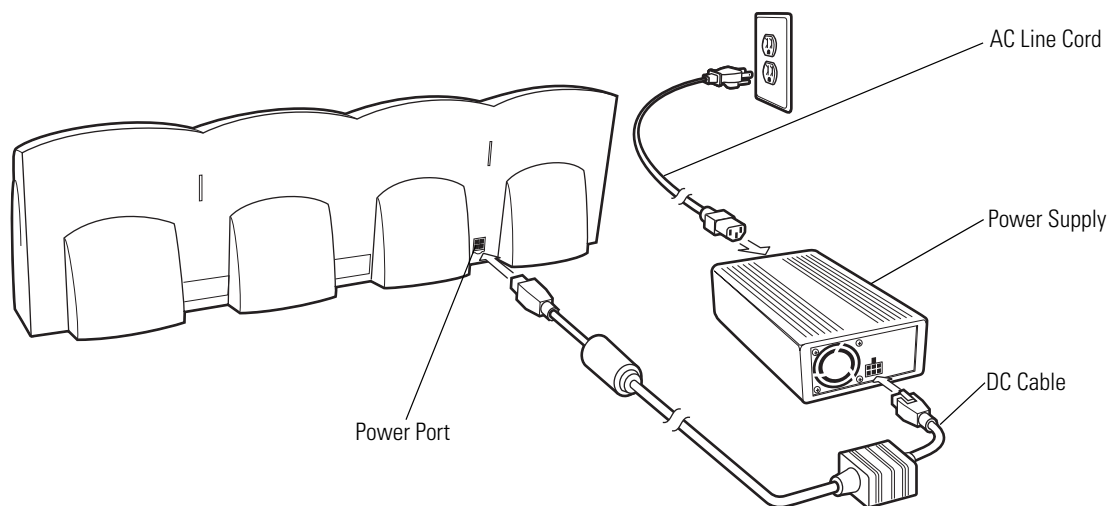

Figure 2-3. Four Slot Charge Only Cradle, Setup
9. Connect the power as shown in Figure 2-3 on page 2-7. The power supply should be located in the power supply well.